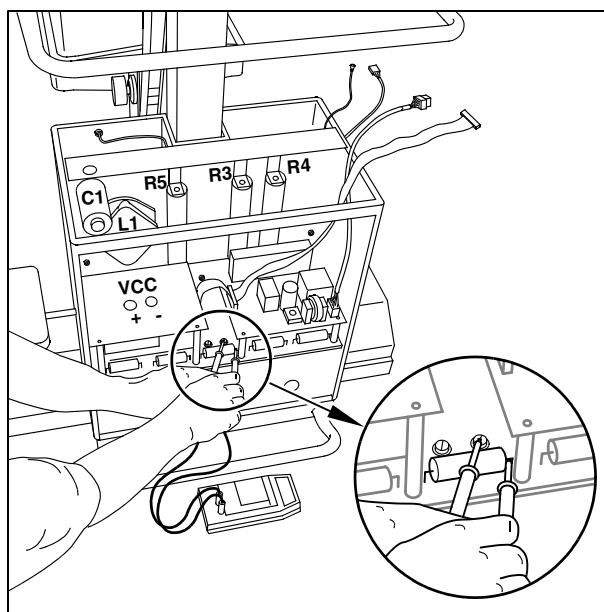

Fig. 1
- It is imperative that you determine the actual voltage by connecting the DVM to the -VCC and + VCC measuring points on the inverter board D 960 or (for easier access) by connecting it to the + connection point of the C3 capacitor and to the right-hand side of the F3 fuse on the capacitor board D 970 (see Fig. 1).